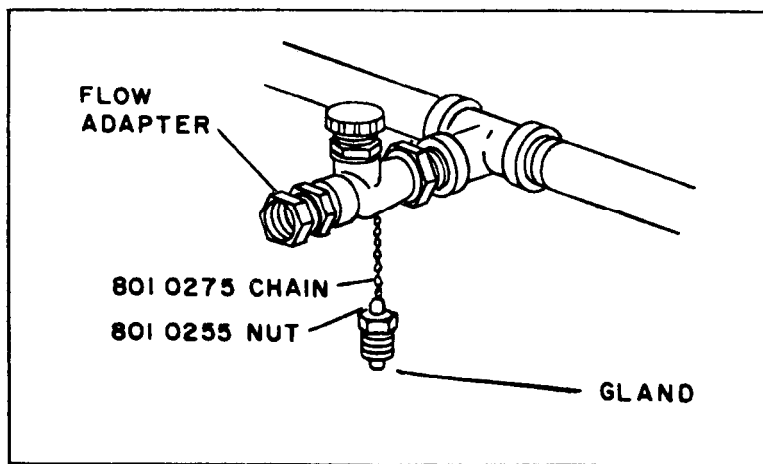

Figure 2. Flow Adapter for Pipeline Service
- (2) Refer to figure 2 for the wiring diagram control panel.
Figure 2 illustrates the method of connection the Flow Adapters to a pipeline. Use an 8010267 plug and chain assembly to cap-off unused outlets.